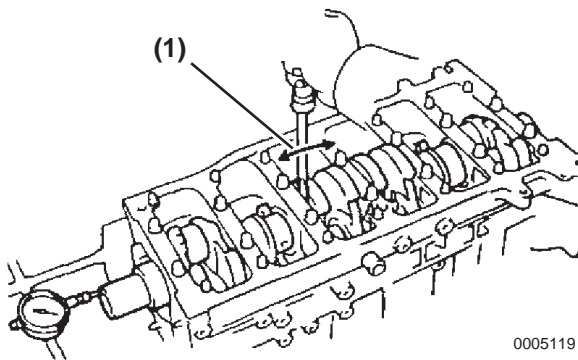

Figure 5-89
15. Measure the crankshaft thrust clearance with a dial indicator by moving the crankshaft back and forth using a screwdriver (**Figure 5-89, (1)**).